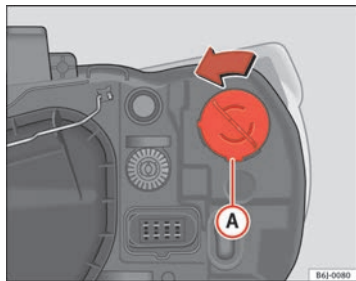

Fig. 142 Single turn signal lamp
- Rotate the bulb holder ⇒ fig. 142 **A** to the left and pull.